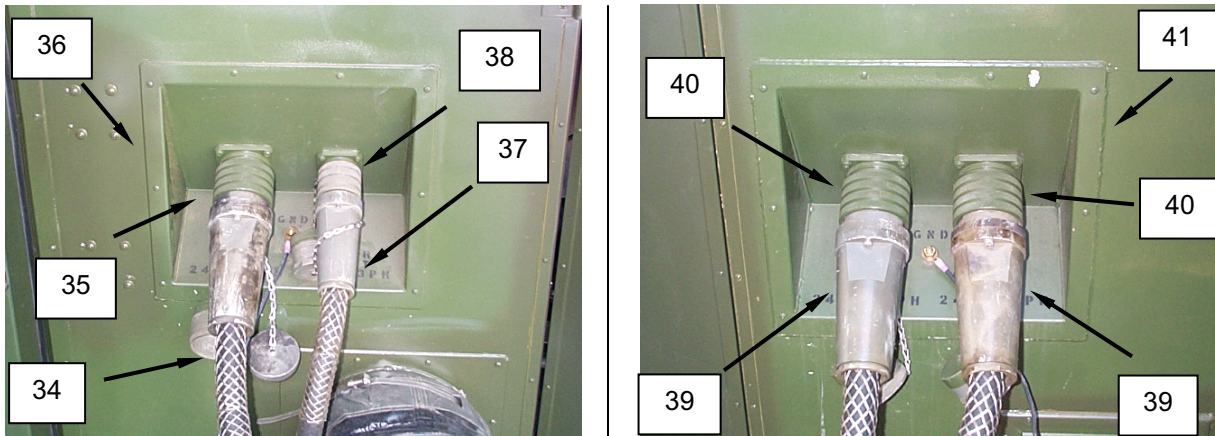

Figure 11. Lay Out and Connect Power Cables.
2. Connect one 50-ft, 100 A cable (**Figure 11, Item 34**) to CBL main power receptacle (**Figure 11, Item 35**) located on power service panel (**Figure 11, Item 36**) at the washer end of the CBL.
3. Connect the TEMPER 50-ft, 60 A power cable (**Figure 11, Item 37**) to the smaller 60 A power outlet (**Figure 11, Item 38**) on the power service panel (**Figure 11, Item 36**).
4. Connect one 50-ft, 100 A cable (**Figure 11, Item 39**) to each dryer power input receptacle (**Figure 11, Item 40**) on the dryer power service panel (**Figure 11, Item 41**).